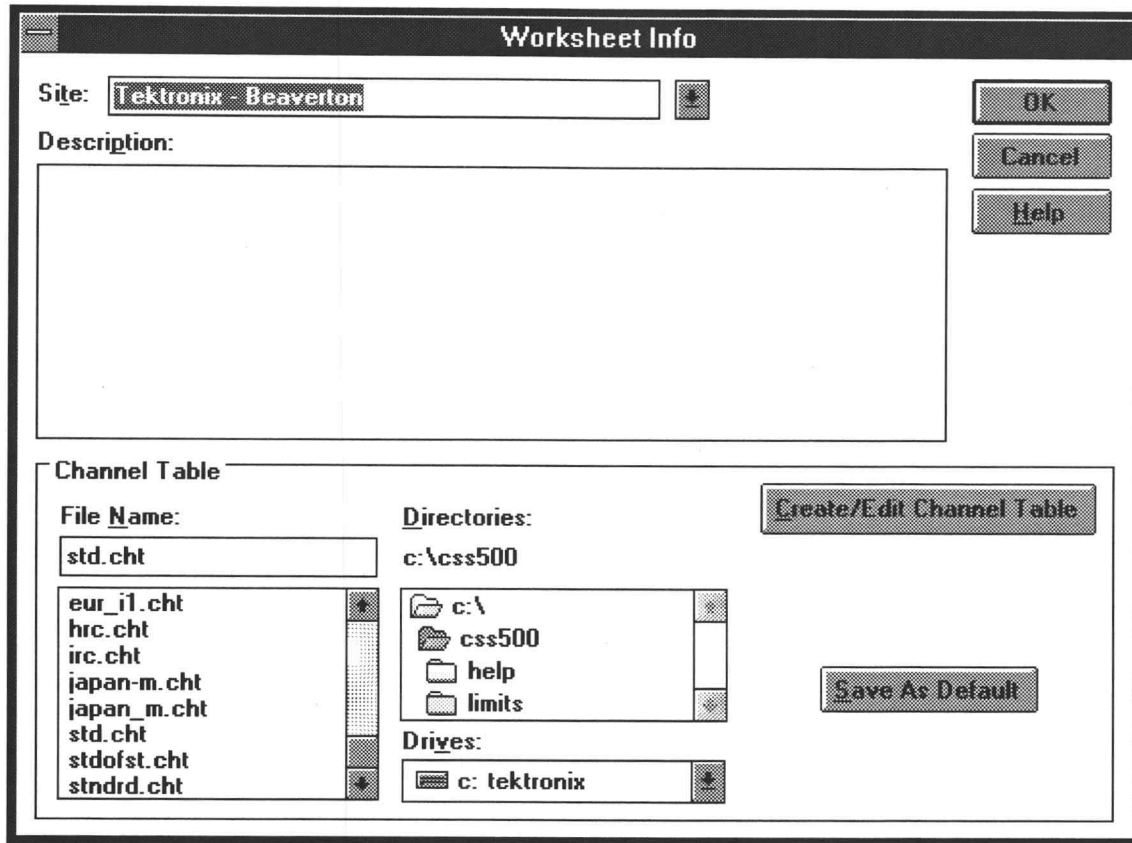

Figure 5-7. The Worksheet Info dialog box used to change the Channel Table.
1. Choose Worksheet Info, from the Configure menu. The Worksheet Info dialog box, similar to Figure 5-7 appears.